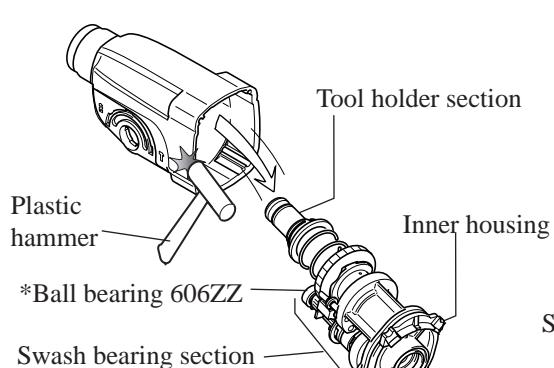
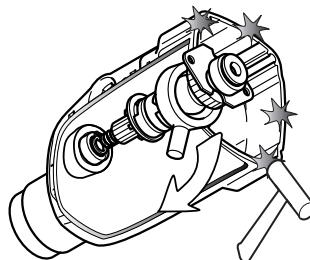

Fig. 8C
Fig. 8H
And separate inner housing together with tool holder section and swash bearing section from gear housing as illustrated in Fig. 8C. Ball bearing 606ZZ can remain in gear housing in this stage. If so, refer to Fig. 8H at page 10.
6. Reassemble swash bearing section temporarily to gear housing, and hold gear housing as illustrated in Fig. 8H.